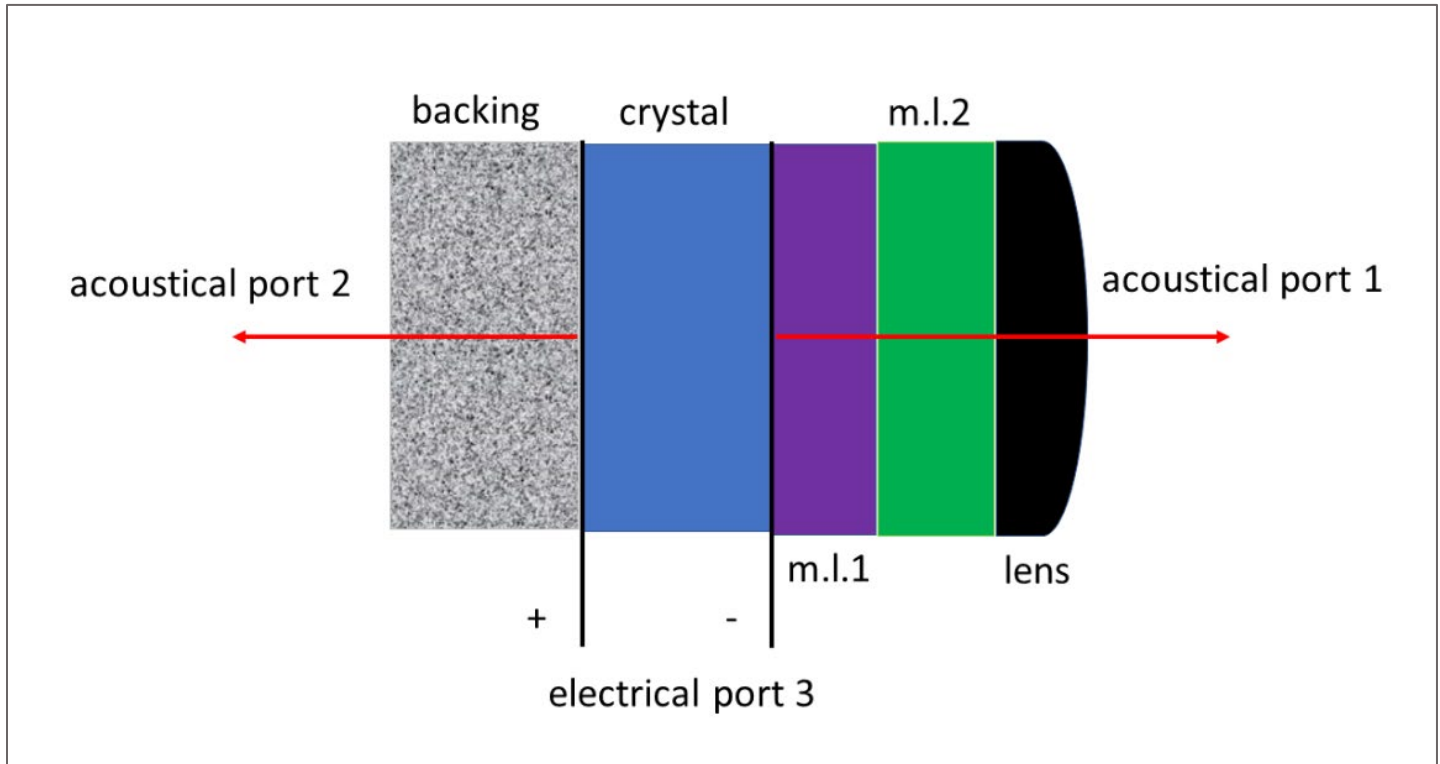

Figure 26: Transducer Model
3. Using the Matching Layers dropdown menu, select the number of matching layers. The Matching Layers dropdown offers resonant design options from 0 to 2 layers and includes a special design (Optional Two) that simulates the L11-5v transducer design. By default, the number of matching layers is set to zero; in other words, there are no matching layers as demonstrated in Figure 26. Note that the resonant design only considers one or two matching layers (m.l.1 and /or m.l.2 as indicated in Figure 26). The simulator fixes the backing impedance at 3 MRayls and does not include a lens layer.